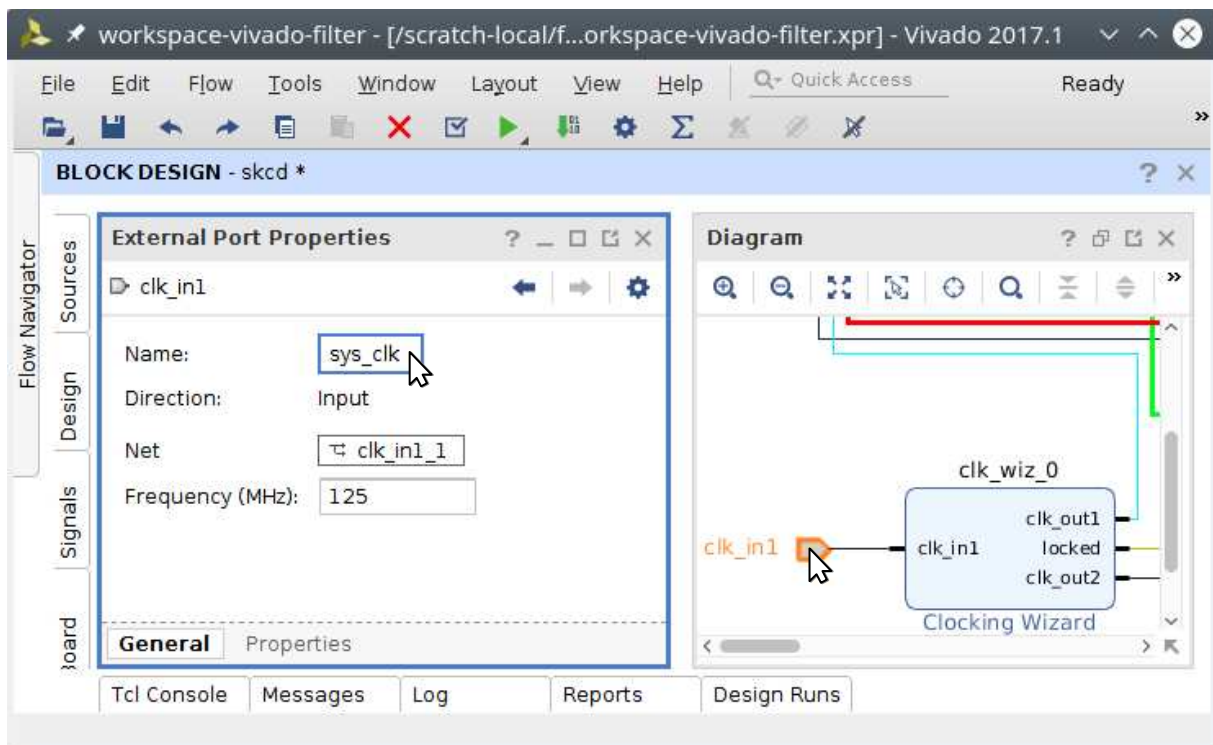

Figure 45: Renaming the clk_in1 input port to sys_clk
- s) Thus, rename (see Figure 45) the clk_in1 input port to sys_clk by clicking on the port and changing its name in the **Name** text field of the **External Port Properties** window. Then, save the block design by pressing **Ctrl+S**.